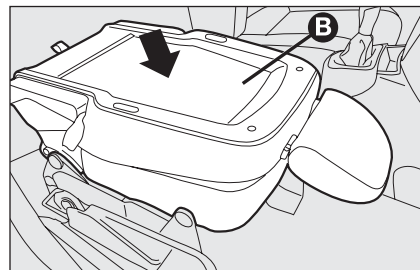

fig. 23
- ☐ then, push the backrest **B-fig. 23** down: the seat is now folded all the way down in the "table" position;